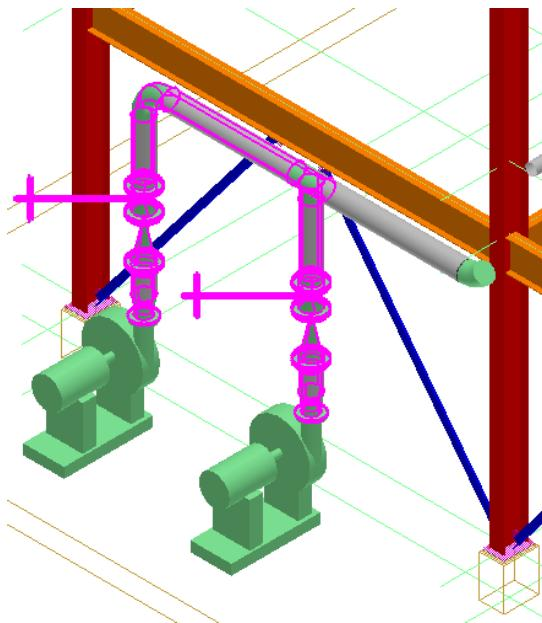

Figure 28: Selected Pipe Parts
30. Select the piping parts of the pipeline **1001-P**, as shown in Figure 28, to assign them to isometric sheet number **A**.